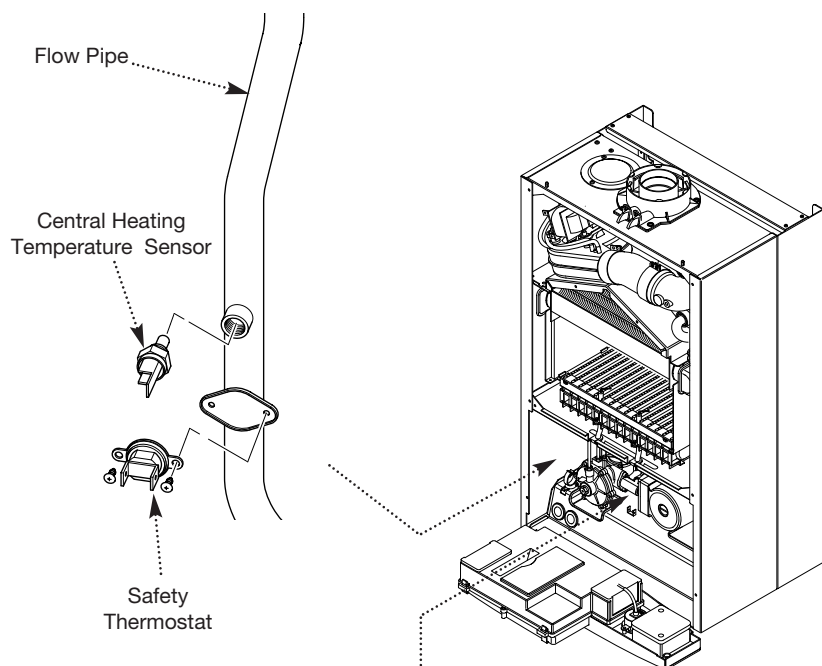

Fig. 55
12.9 Central Heating Temperature Sensor (Fig. 55)
12.10 Safety Thermostat (Fig. 55)